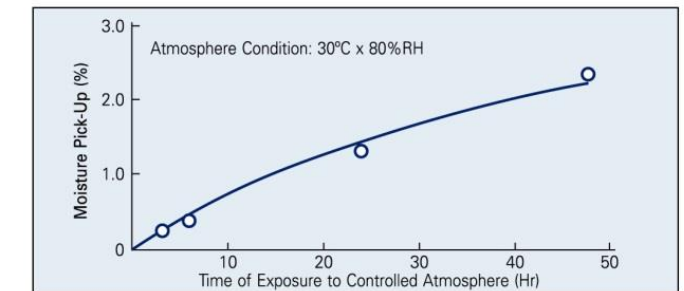

Fig. 6: The Relationship between Moisture Pick-Up and Time of Exposure to Controlled Atmosphere
- Re-dry LB-52-18 at 300~350°C for 30~60 minutes before use for every four-hour exposure to air without wetting unless otherwise specified. This is because the coating flux tends to pick up moisture in the air as shown in Fig. 6. Moisture can be a cause of spatters, porosity, irregular bead appearance and cold cracking. The moisture content in the coating flux, therefore, should be maintained at 0.5% maximum by re-drying in order to prevent decreased usability and weldability.